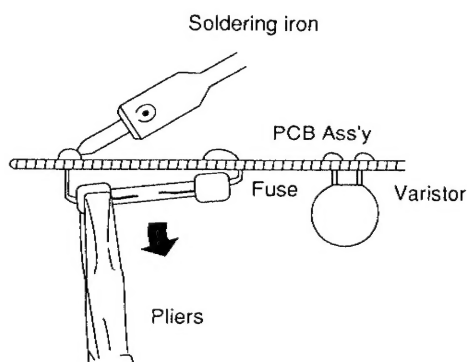

Fig. 6
2. Pull out the fuse at the metal clasp using pliers while heating the soldered leads on the back side of the PCB Ass'y with a soldering iron (30W or 60W). (Fig. 6)